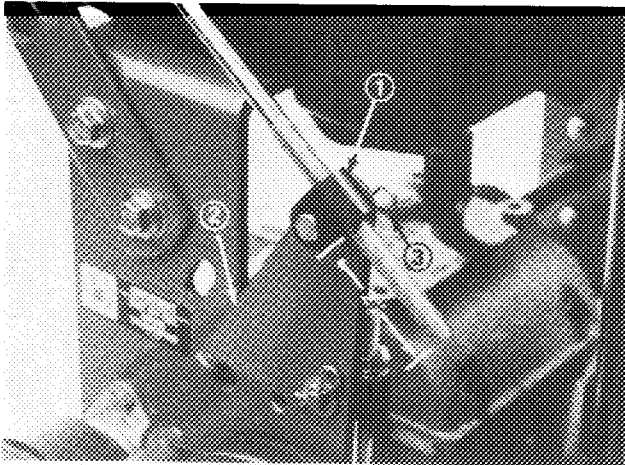
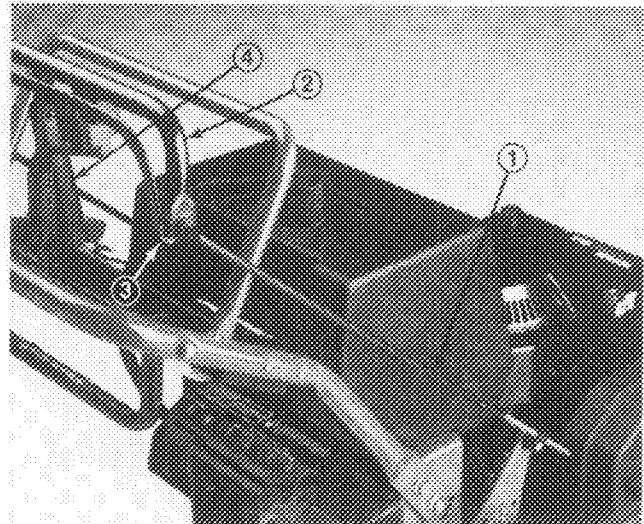

Figure 10
Figure 11
1. Thread a rod fitting onto each control rod approximately 2" (Fig. 10) or until upper control bar (Fig. 11) is perpendicular to ground.
2. Mount rod fitting ends to mounting holes in idler brackets (from outside) with clevis pins, washers and hairpin cotters (Fig. 10).
3. Check gap between control bar and upper handle when fully engaging wheel belts. Gap should be approximately 1 to 1-1/4" (Fig. 11).
5. Brake rods should be adjusted so parking brake lever can be swung into a snug position against the upper handle while pulling back on upper control bar (Fig. 11).